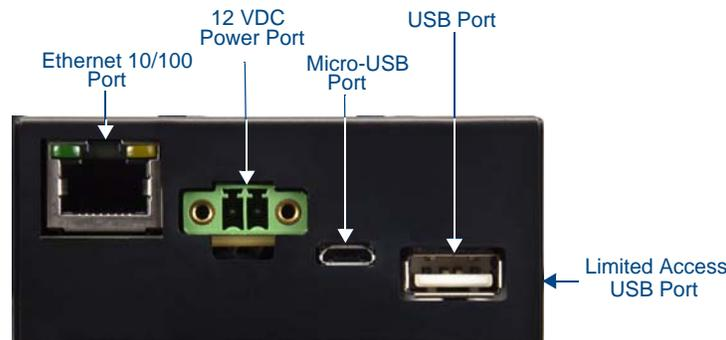

FIG. 20 MXD-2000XL-PAN rear connectors (front view)
9. Insert each connector into its corresponding location along the back of the device (FIG. 20).